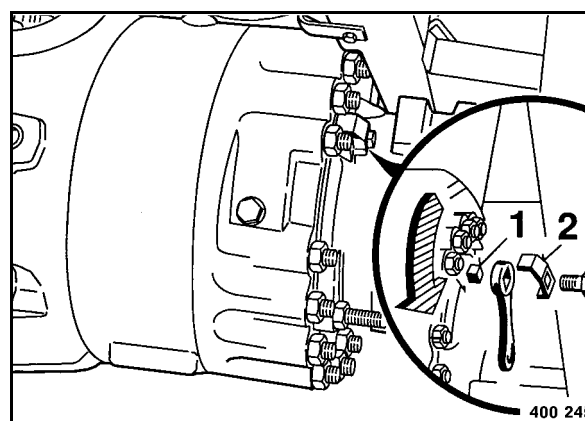

Fig. 111
- Unscrew the locking plate 2 (Fig. 111).
- Turn the square (1) in anti-clockwise direction against the end stop.